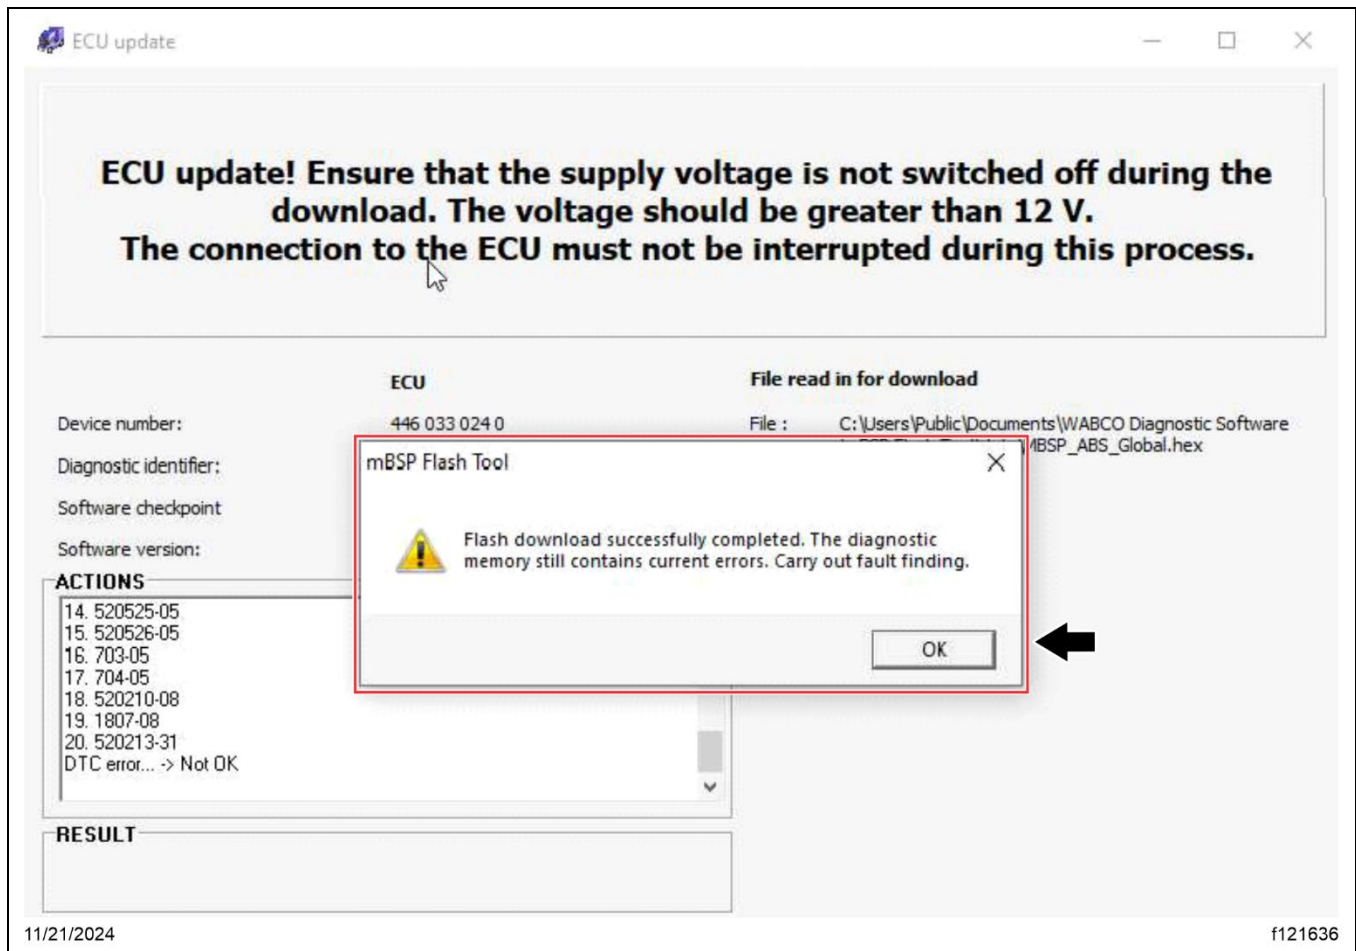

Fig. 56, ECU Update Successful
17. When the flash tool completes a successful ECU update, an error message is displayed advising that ABS fault codes will be present requiring an ESC Calibration procedure. Select 'OK' and close the flash tool application. In some cases, the flash tool may show an error message, lock up, or close unexpectedly. Follow the substeps to verify the flash tool update has been successfully written to the ABS ECU. See Fig. 56.